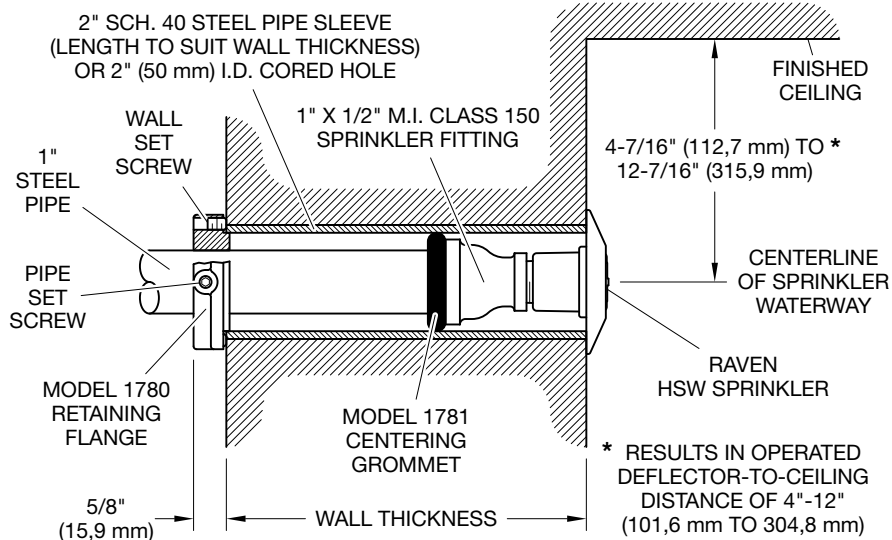

FIGURE 7
3. Centerline of the sprinkler waterway is located 7/16 in. (11,1 mm) below the deflector (Ref. Figure 7).
RAVEN Horizontal Sidewall Sprinklers (TY3381) must be installed with a deflector-to-ceiling distance of 4 in. to 12 in. (100 to 300 mm). To meet this requirement, the centerline of the sprinkler waterway must be located 4-7/16 in. to 12-7/16 in. (112,7 mm to 315,9 mm) below the ceiling (Ref. Figure 7).
RAVEN Extended Coverage, Horizontal Sidewall Sprinklers (TY3382) must be installed with a deflector-to-ceiling distance of 4 in. to 12 in. (100 mm to 300 mm). To meet this requirement, the centerline of the sprinkler waterway must be located 4-7/16 in. to 12-7/16 in. (112,7 mm to 315,9 mm) below the ceiling (Ref. Figure 7).
Figure 7 illustrates a technique to adjust the location of the sprinkler fitting to help assure immobility of the sprinkler fitting and to help maintain perpendicularity of the sprinkler fitting to the mounting surface.
While Figure 7 illustrates a horizontal installation, it can be applied to pendent installations.
When applied, the technique shown in Figure 7 allows the sprinkler/supply pipe to be pulled back into the mounting surface from behind the wall or above the ceiling, and the retaining flange set flush to the back of the wall or above the ceiling and secured with the retaining flange pipe set screws. This technique will help overcome problems with assuring that the escutcheon is held fast to the mounting surface (i.e., tight with no movement or gap).
It is recommended that appropriate piping is used to connect the supply to the sprinkler to allow for installation adjustment to ensure that the sprinkler and escutcheon are installed properly, as shown in Figure 7.
When applied, the technique shown in Figure 7 allows the sprinkler/supply pipe to be pulled back into the mounting surface from behind the wall or above the ceiling, and the retaining flange set flush to the back of the wall or above the ceiling and secured with the retaining flange pipe set screws. Do not over-tighten the wall set screws, as over-tightening these screws may damage the sprinkler.